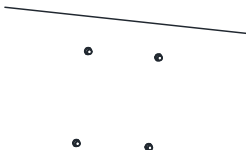

Figure 2-56 Drill Screw Holes
1. Drill screw holes on the wall according to the dimensions of wall-mounted camera and insert four M6 expansion screws into the screw holes, as shown in Figure 2-56.